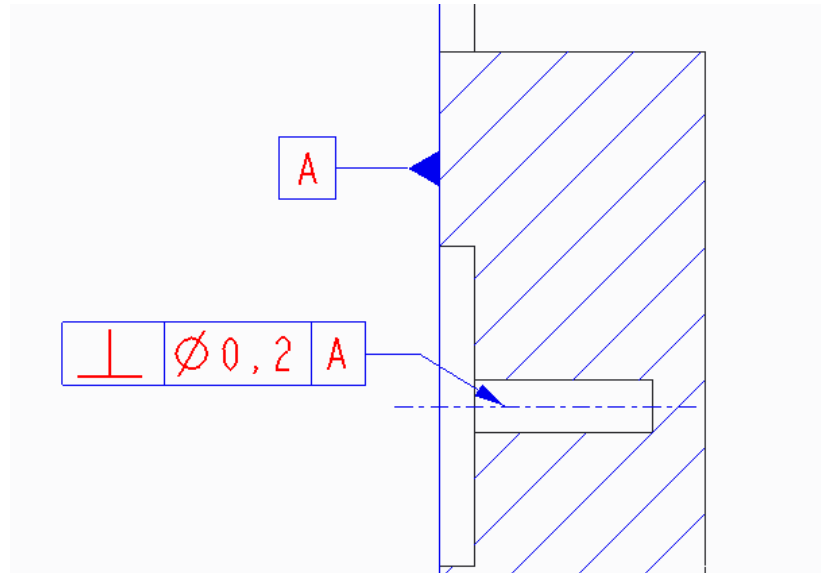

Figure 28: An example geometric tolerance: Pointed axis must be within value of 0.2 perpendicular to surface A.
14. The tolerance symbols are ready (Figure 28). You can modify geometric tolerance symbol by activating it and selecting **Properties** from the **RMB** menu (or by double-clicking it).